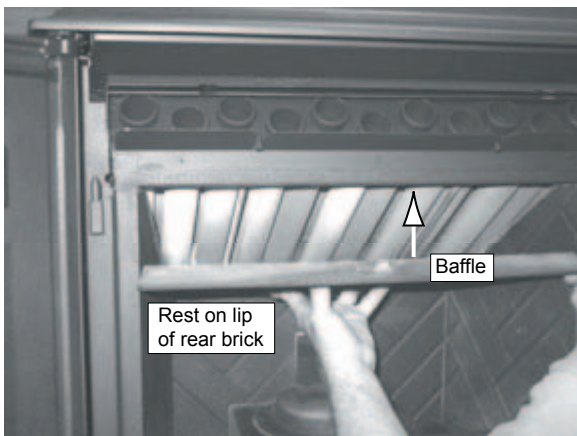

Figure 31.2
- f. Position the baffle in place and re-tighten the latch (shoulder bolt) with an Allen wrench by turning clockwise. **Figure 31.2.**